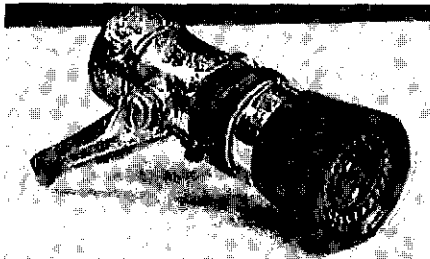

Figure 1-6 Quick release
2. Quick-release 1½-inch fog nozzle (Figure 1-6)